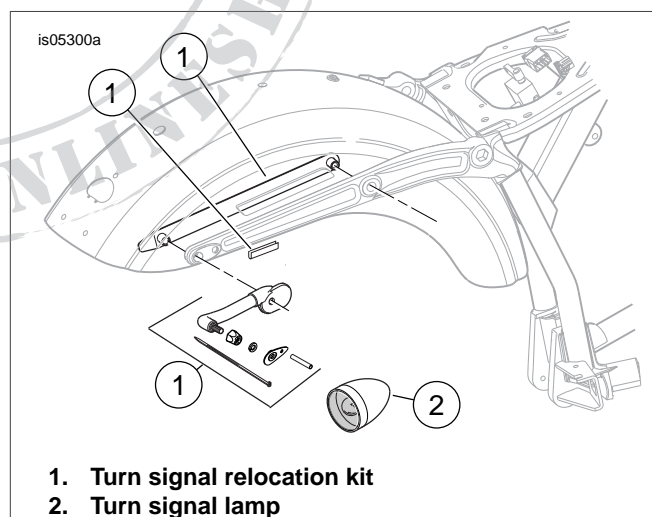

Figure 1. Turn Signal Relocation Kit
5. **2009 and Later FXDB:** See Figure 1. Use the fender support bracket included in the Turn Signal Relocation kit. Follow the instructions provided with the Turn Signal Relocation Kit (68227-09) before proceeding with the following steps. When finished with these instructions you will need to return to the Turn Signal Relocation Kit instructions to complete that installation.
2. See Figure 1. Measure approximately 1-1/2 inches (38 mm) from the bottom edge of the saddlebag. Orient the reflector horizontally and carefully center the reflector mount between the straps of bags with straps or locate it at the rearward portion of bags without straps. Gently press reflector mount to saddle bag so paint marks transfer and punch or drill small holes through saddlebag where paint marks transferred to saddlebag.